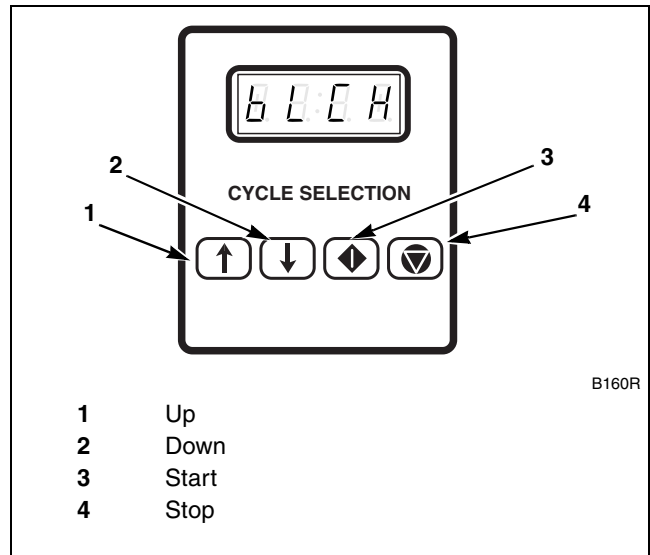

Figure 30
9. **When applicable,** add bleach to container 2 when the display reads “bLCH”. Refer to *Figure 30*.